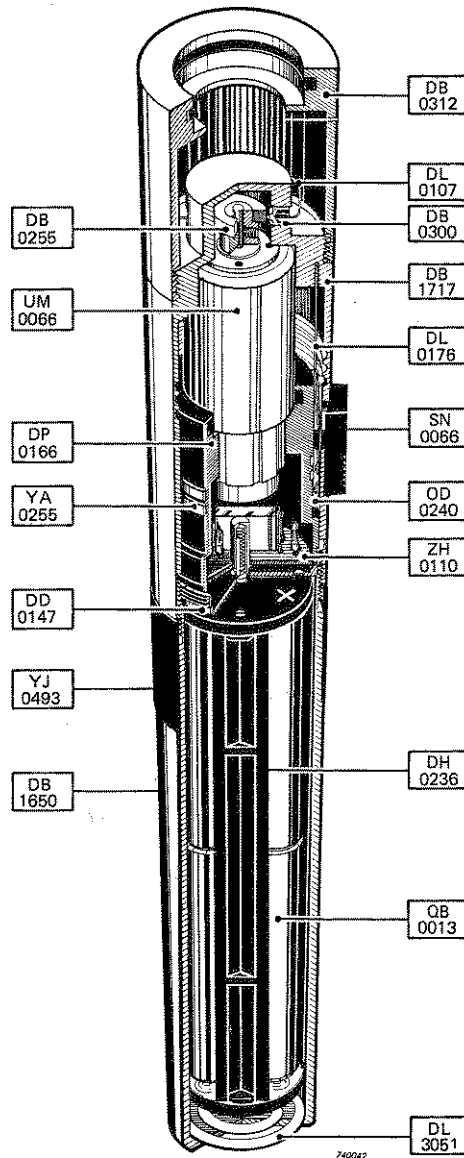

Fig.4.1. Part numbers of the 4220
Dismantling the Pistonphone Type 4220 is strongly discouraged. If dismantling is absolutely necessary to change a spare part, proceed as follows (refer to Fig.4.1).
**Note:** The force of the retaining spring should be 20 g approximately. A lower force will cause distortion and a higher force produces excessive wear of the piston tips. Spare springs and pistons can be ordered separately (see parts diagram Fig.4.1).